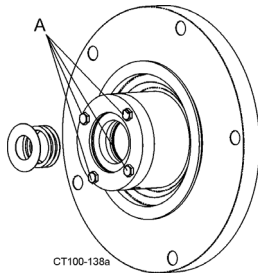

Figure 18 - Remove Screws from Housing
1. Remove cap screws from seal housing. (Figure 18, item A).